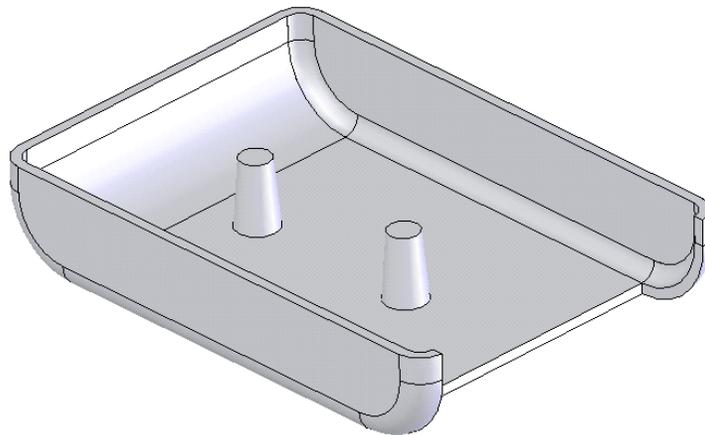

Figure 6-102 Model after adding the extruded feature
- Create a reference plane at an offset distance from the top planar face of the base feature and extrude the sketch created on the new plane, refer to Figure 6-102.
Figure 6-102 shows the rotated model after adding the extruded feature.